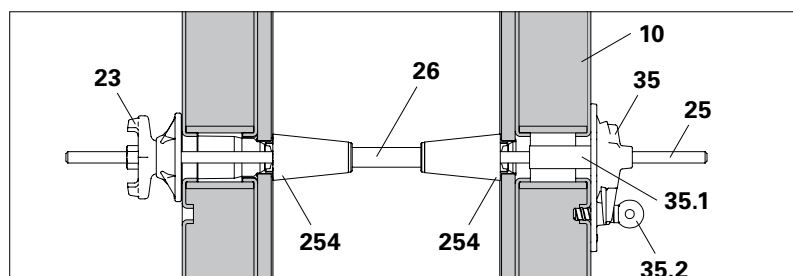

Fig. A5.12
- Version 3 with SK Anchor Cone DW 15/2 (Fig. A5.12)